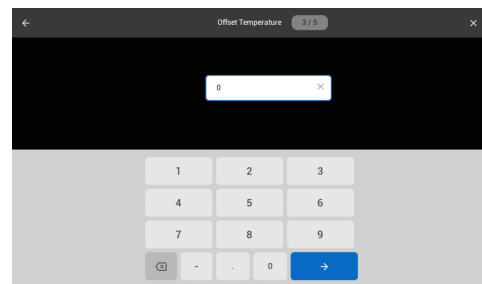

Figure 21: Input Idle Offset (Bullet Only)
5. **Bullet Only:** Input the “idle” offset temperature and touch the blue arrow button to continue (Figure 21).